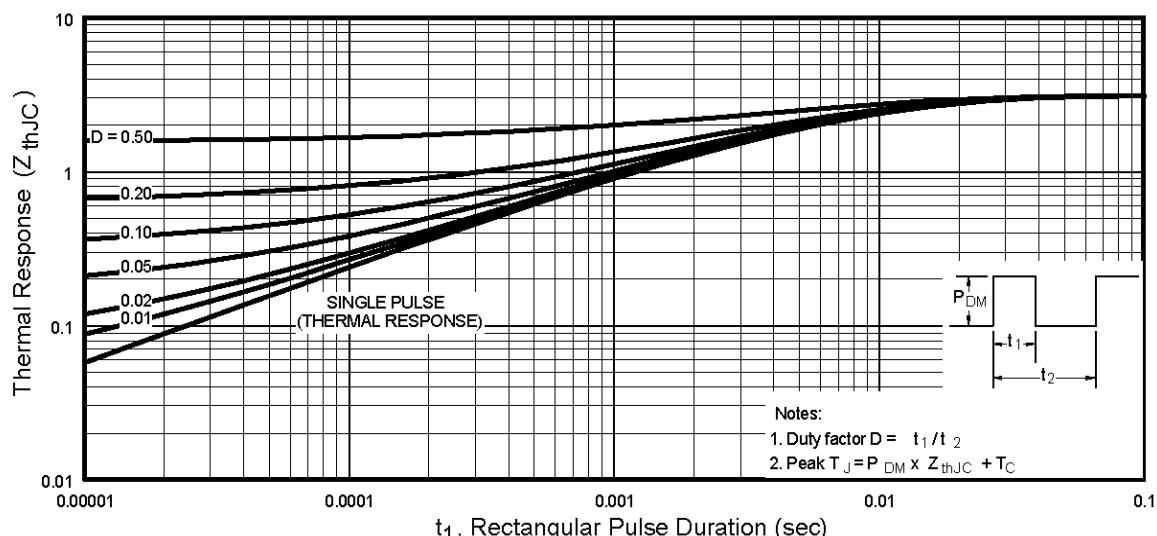

Fig 11. Maximum Effective Transient Thermal Impedance, Junction-to-Case
① Repetitive rating; pulse width limited by max. junction temperature. (See fig. 11)
④ Pulse width $\leq 300\mu\text{s}$; duty cycle $\leq 2\%$.
② $V_{DD} = 25V$, starting $T_J = 25^\circ\text{C}$, $L = 4.7\text{mH}$